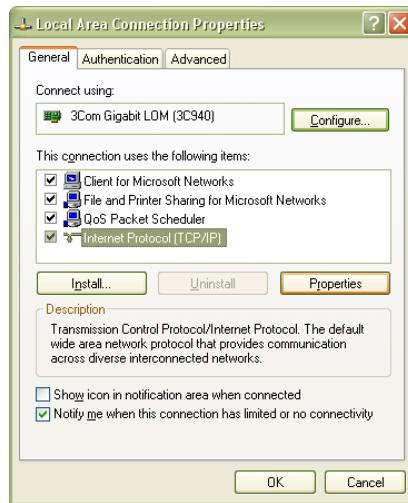

FIGURE 2-5: LOCAL AREA CONNECTION PROPERTIES DIALOG BOX
- 4) Select **Internet Protocol (TCP/IP)**, then click the **Properties** button as shown in Figure 2-5.